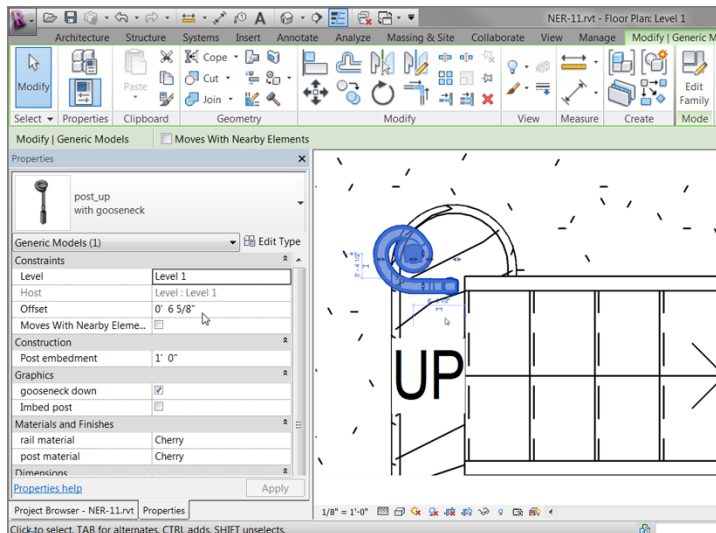

FIGURE 10.72: Placing the post with the gooseneck
1. In the Project Browser, go to the Level 1 floor plan, and zoom in on the landing area, as shown in Figure 10.72.